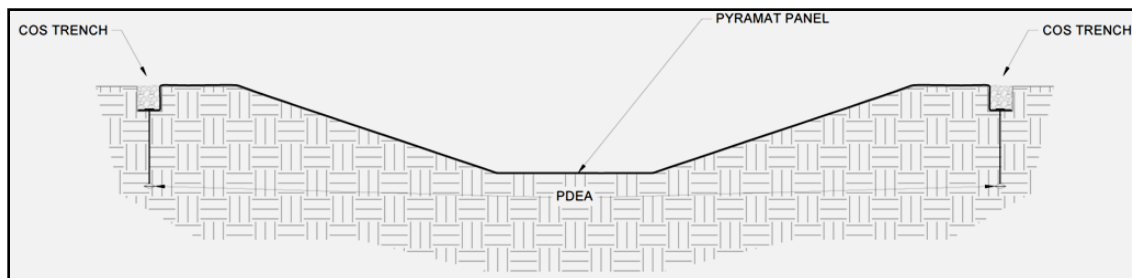

Figure 25: Crest of Slope (COS) Trenches Complete
11. Secure Pyramat with pins and PDEAs in the opposite COS trench. Suggested placement of pins and PDEAs for the opposite COS trench is along the bottom of the trench with pins on 12 in (300 mm) centers in between PDEAs on 4 ft (1.2 m) centers (Figure 25).
12. Backfill and compact the opposite COS trench in the location of the first Pyramat panel only (Figure 25).